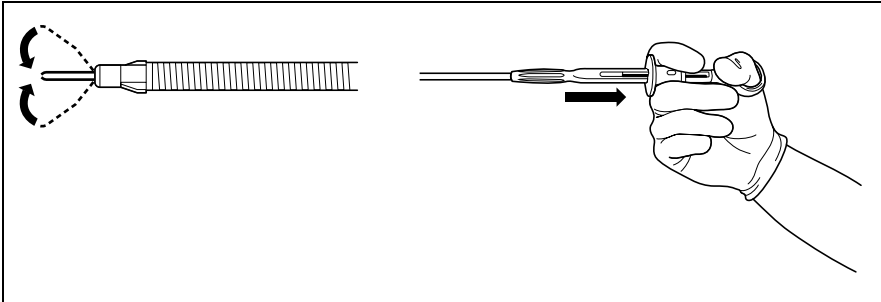

Figure 3.13
5. Pull the slider firmly to close the clip on the target site (see Figure 3.13).